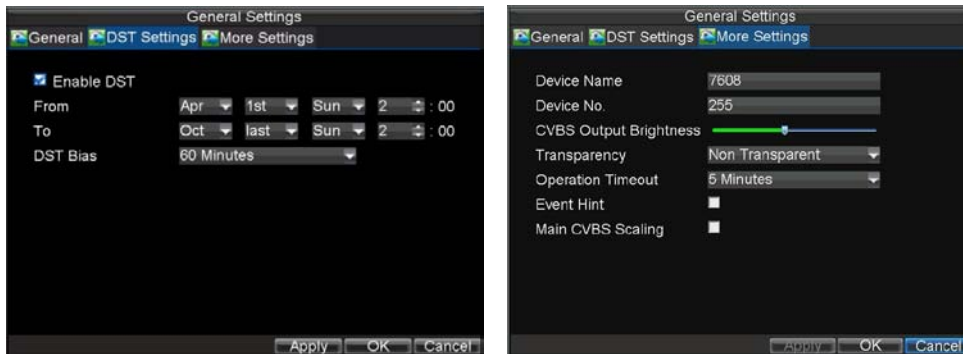

Figure5. General Settings-DST & More Settings
9. Select the **DST Settings** tab to enable DST, and **More Settings** to change device name and number, shown in Figure5.